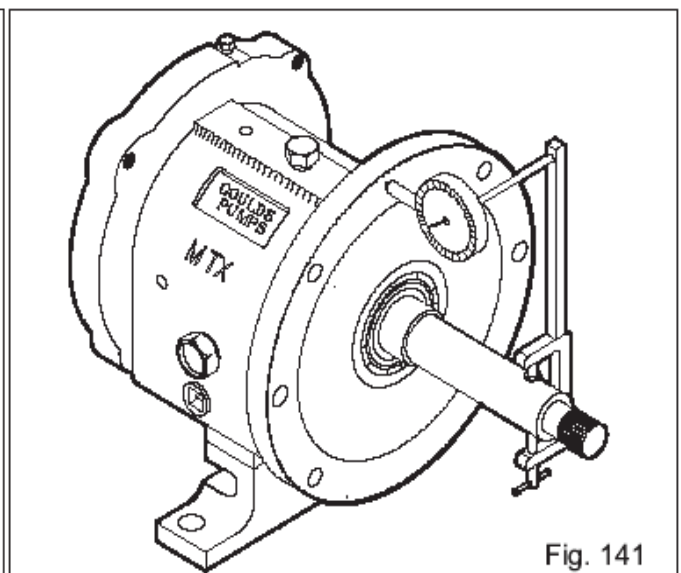

Fig. 141
4. Check frame face run out. Rotate shaft so indicator rides along the fit for 360 degrees. If total indicator reading is greater than 0.025 mm disassemble and determine cause (Fig. 141).